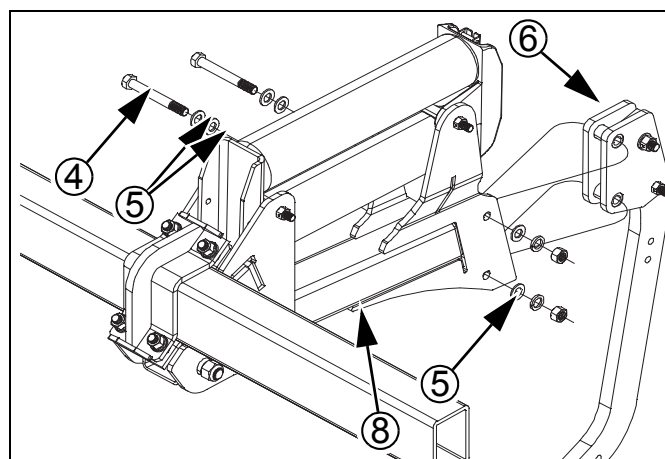

Figure 5
21. Attach the straight shank assembly ⑥ *Refer to Figure 5* or no-till shank ⑦ *Refer to Figure 6* to the auto reset shank mount ⑧ using $\frac{3}{4}$ x 6 Gr. 8 bolts ④, $\frac{3}{4}$ " hardened flat washers ⑤, two on head side and one on lock washer side, $\frac{3}{4}$ " lock washers and nuts.